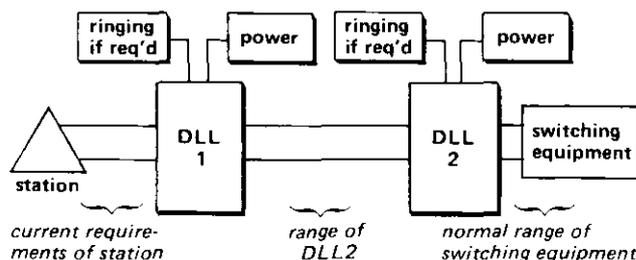

figure 4. Tandem DLL range limits
2.10 When the 7503 is operated in tandem with other DLL's (see figure 4), the maximum distance from the station to the nearest (first) DLL is determined by the current requirements of the station. The maximum distance from the first DLL to the next (second) DLL is determined by the station-side-range of the second DLL, and so on. The maximum distance from the last DLL to the switching equipment depends upon the range of the switching equipment.